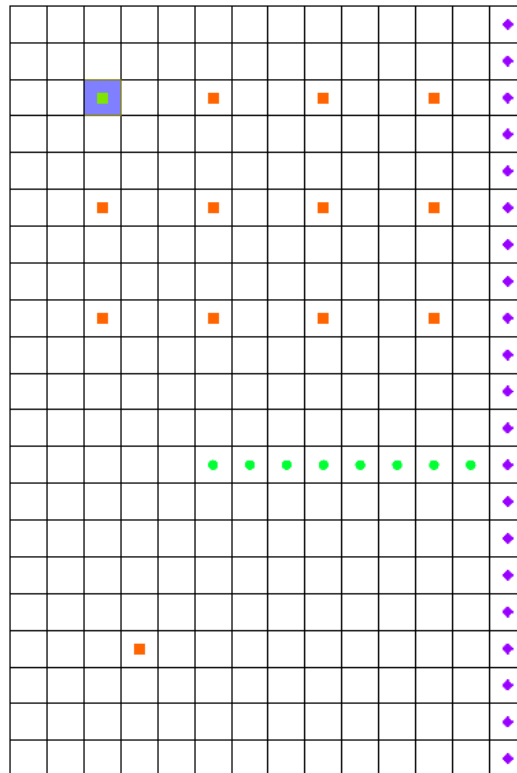

Figure 4 Selected MNW well cell
- Using the **Select Cells**  tool, select the 3D grid cell highlighted in Figure 4.
1. If necessary, re-select the grid cell selected in Figure 4 (Cell ID: 31).